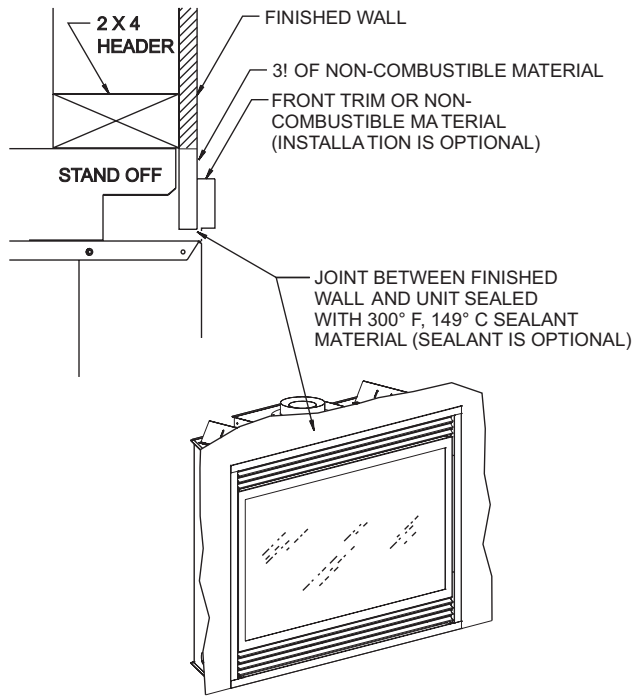

Figure 13
**Note:** For finishing to top of fireplace, refer to Figure 13.
## Finishing (Figures 13 and 14)